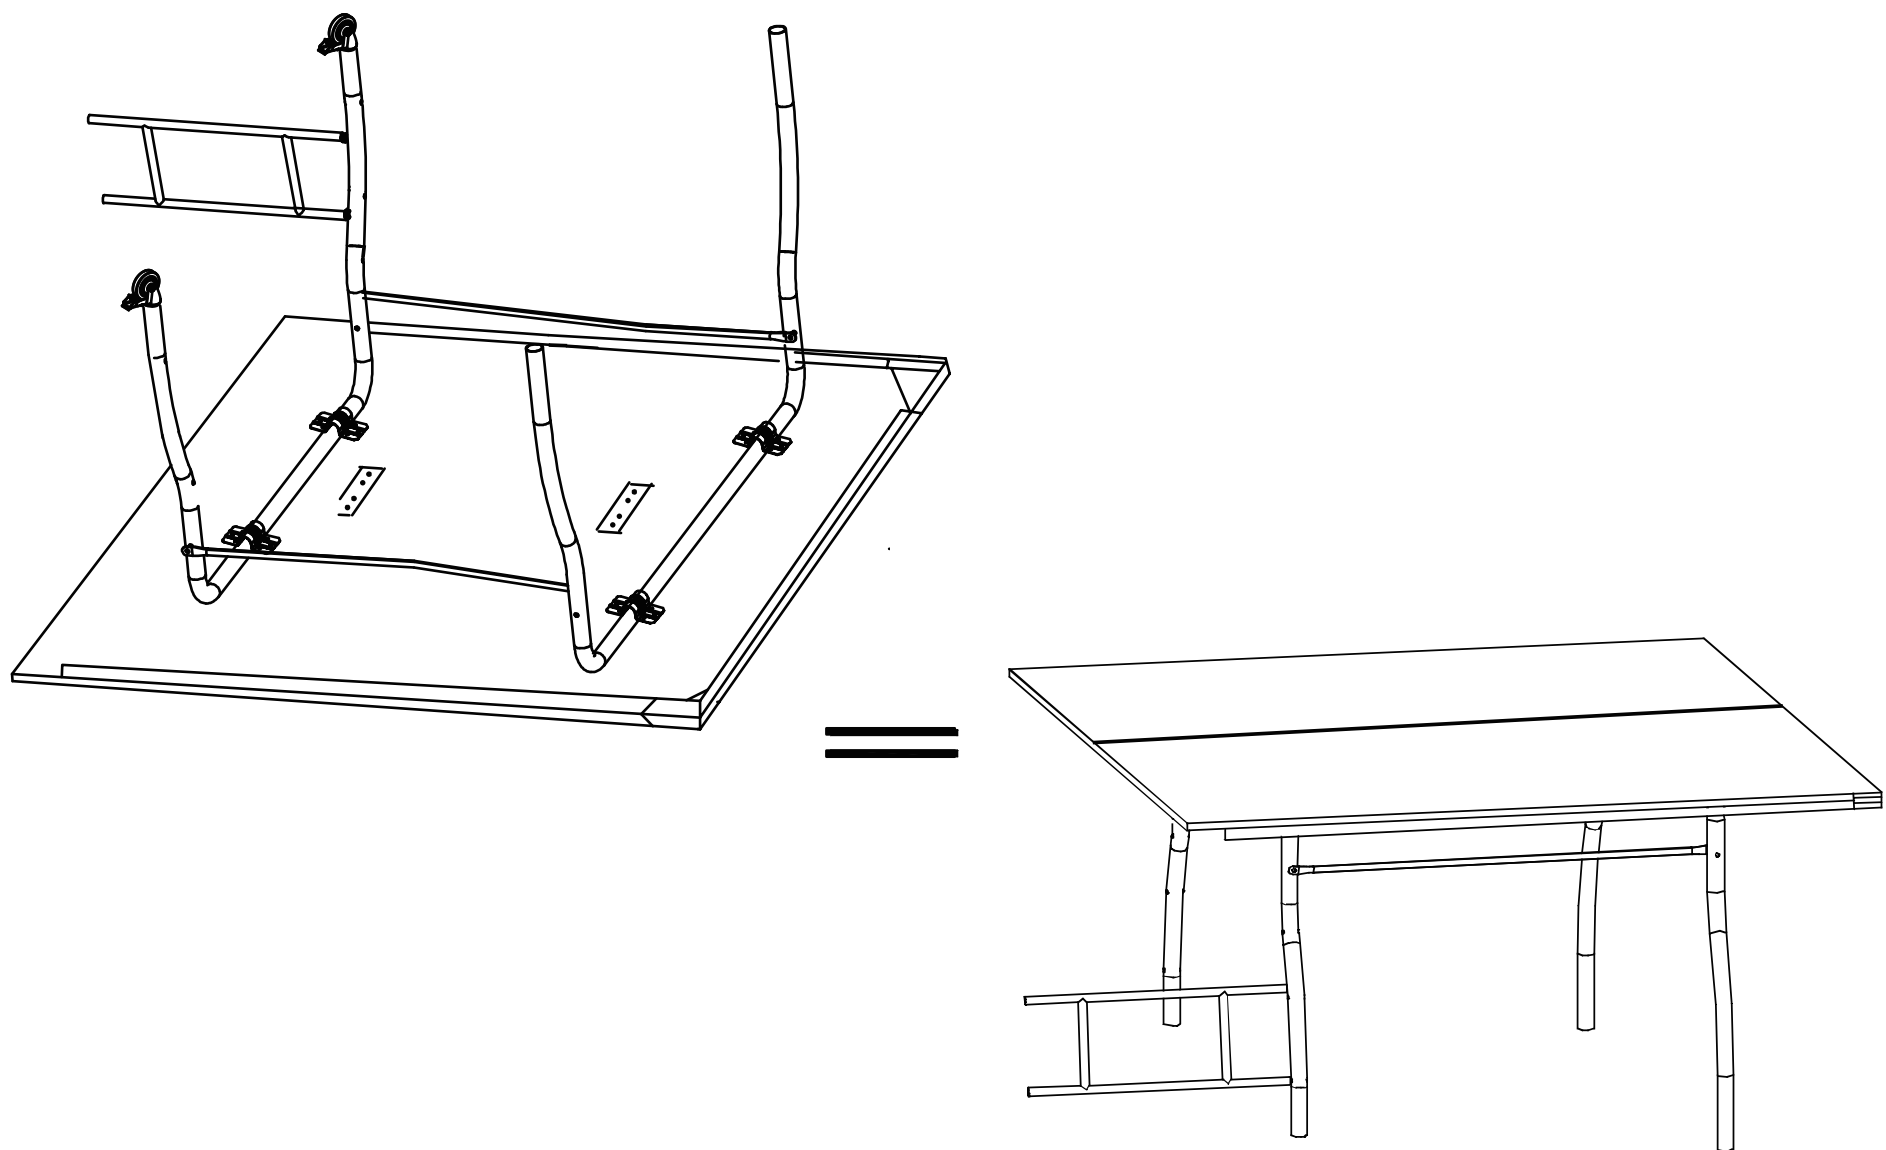

FIGURE 12
STEP12 : Very carefully turn the two tops with legs over so that they are upright on the legs as shown in FIGURE 12.